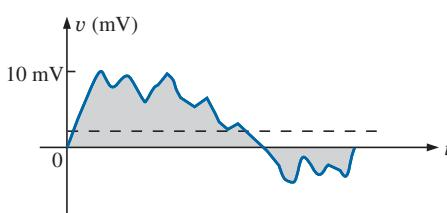

FIG. 13.56
**EXAMPLE 13.19** For the waveform in Fig. 13.56, determine whether the average value is positive or negative, and determine its approximate value.
The procedure outlined above can be applied to any alternating waveform such as the one in Fig. 13.56. In some cases the average value may require moving the starting position of the waveform under the AC option to a different region of the screen or choosing a higher voltage scale. By choosing the appropriate scale, you can enable DMMs to read the average or dc level of any waveform.